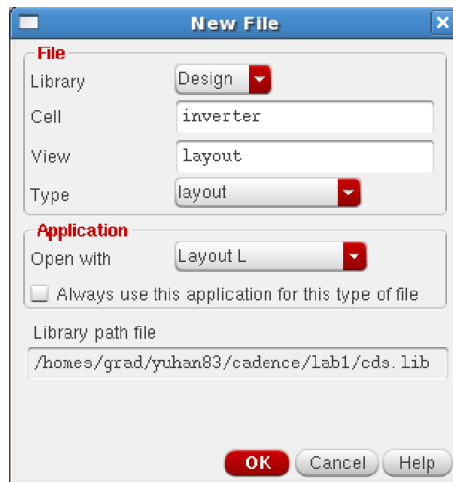

Figure 7. Creating a new layout view for the inverter
- After the schematic and symbol of an inverter circuit are done, next step is to design layout. Create a new "layout" view by File > New > Cell View, and selecting "layout" as the type, as shown in Figure 7. The Virtuoso layout editor window and the layer selection window (LSW) window will pop up.